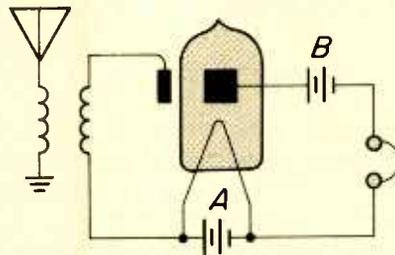

Fig. 4. The audion with external electrostatic control used a plate that was external to the tube. It was soon followed by a device with an external coil.
**A Control Element is Added.** Lee de Forest was convinced that his audion's sensitivity as a detector could be increased even more. Remembering the improvement the separate local circuit had made in his flame detector, he added an additional plate external to the glass envelope as shown in Fig. 4.